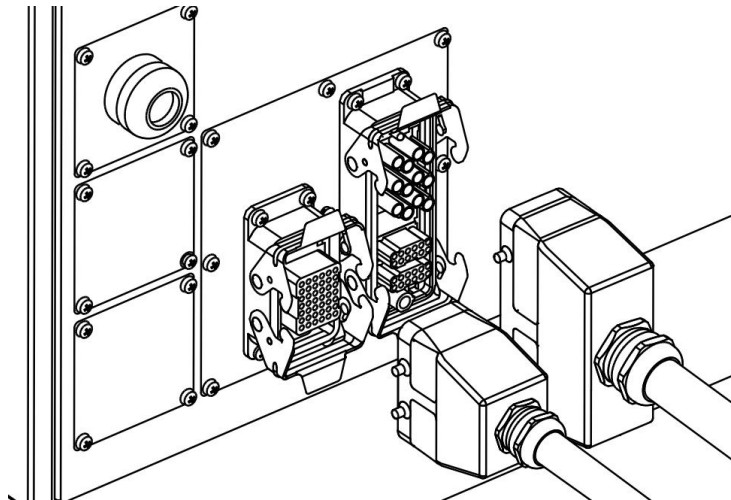

Figure 5-4 Control cabinet heavy-duty connector interface
- Step2. Insert one end of the power cable and the encoder plug into the corresponding connection port of the heavy-load cable of the control cabinet (see Figure 5-4), and fasten the lock.